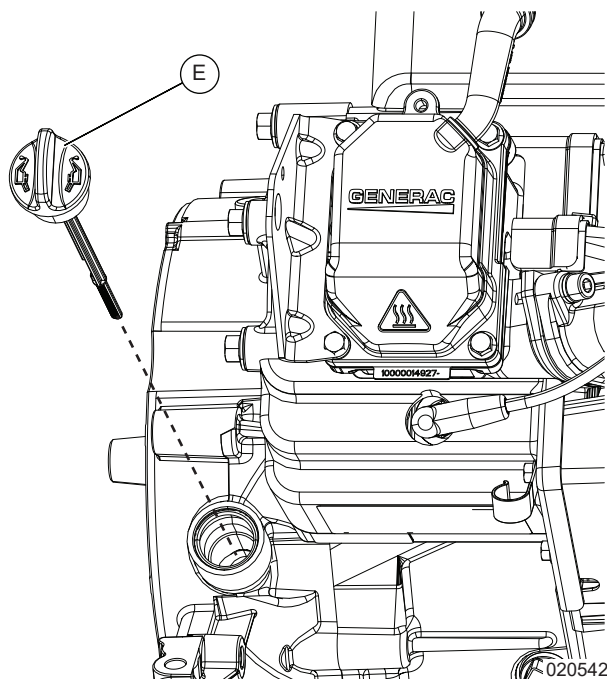

Figure 12-19. Install Dipstick
3. Fit oil drain assembly over barbed fitting and secure with 16.5 mm stepless ear clamp (C).
4. Hang oil drain hose in the j-clip (D) on blower housing.
7. See Figure 12-19. Install dipstick assembly (E) into oil fill port.